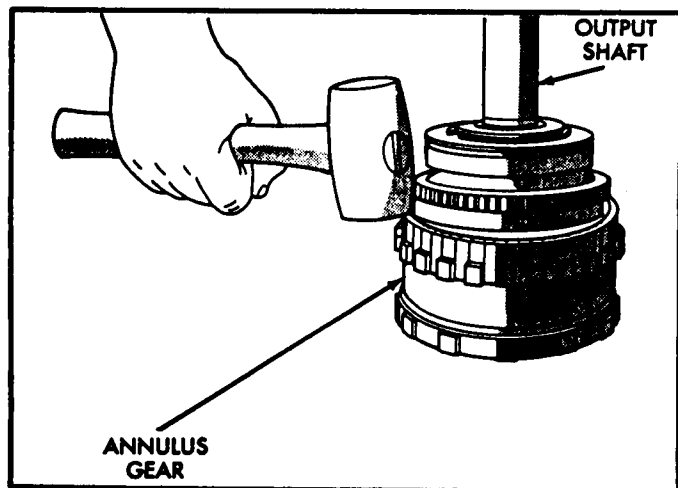

Figure 24
31. Remove the annulus gear from the output shaft using a plastic mallet to tap the gear off of the shaft (See Figure 24).